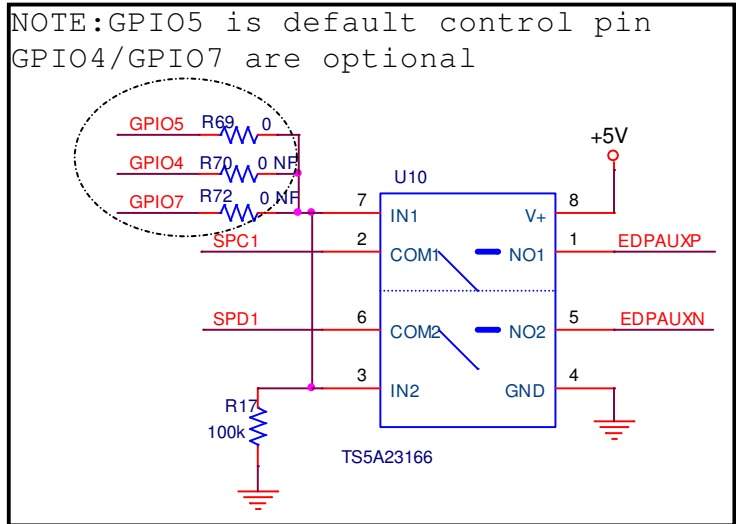

Figure 7: TS5A23166 Connection
**NOTE:** If SPC1/SPD1 as eDP AUX CH, a switch chip (TS5A23166) need to avoid firmware loading fail as shown in Figure 7.